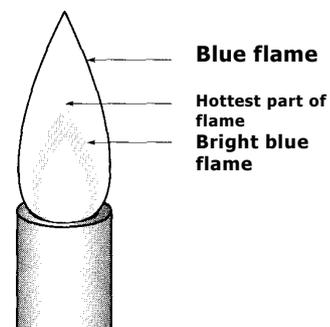

Figure 1.3 Flame of a properly adjusted Bunsen burner.
- Slowly open the air control valve until you hear a slight buzzing. This sound is characteristic of the hottest flame from the burner. Too much air may blow the flame out. When the best adjustment is reached, three distinct cones are visible (Figure 1.3).